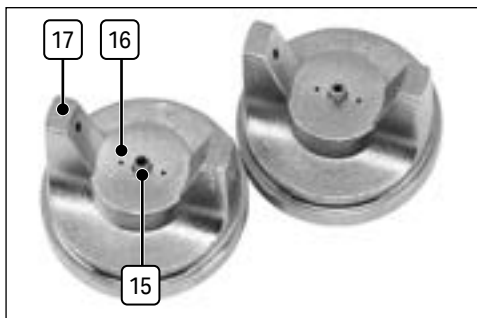

Fig. 12
The air cap (1) has three types of opening that affect the pattern of the fluid spray (Fig. 12):